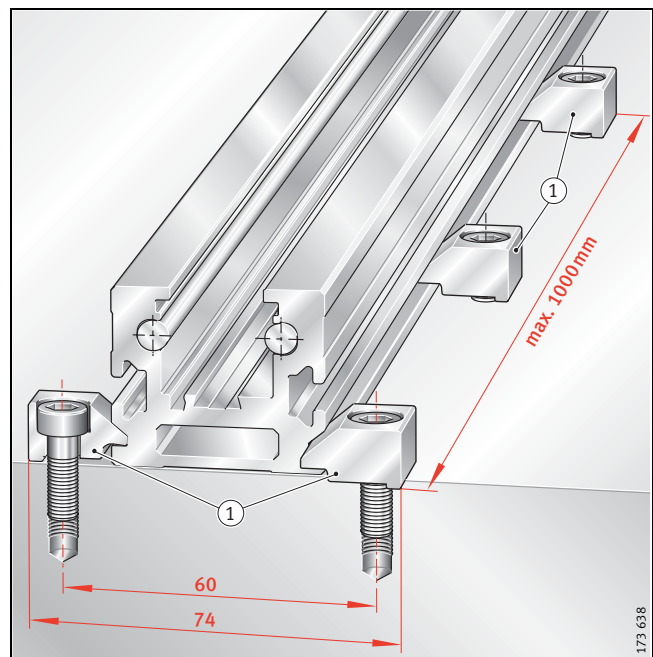
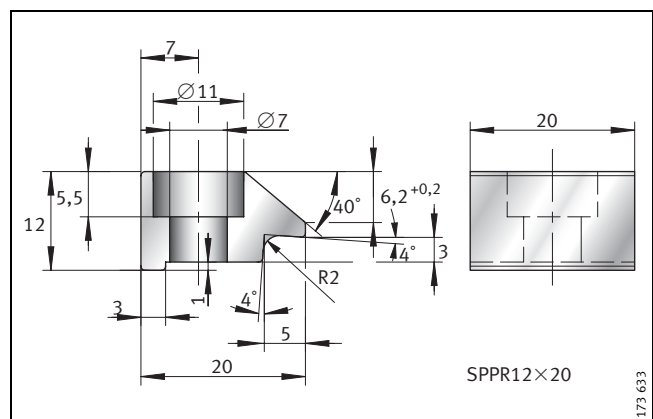

Figure 6 • Clamping lugs for locating the support rails
Figure 7 • Clamping lug
Clamping lugs are available to locate the actuators (Figure 6 and Figure 7).
The clamping lugs are used to fix the support rails to the adjacent construction (Figure 6, ①). This fixing method is easy to use and very economical.
If the support rail is fully supported over a maximum length of 1000 mm, at least 3 clamping lugs must be fitted on each side of the rail (Figure 6, ①).